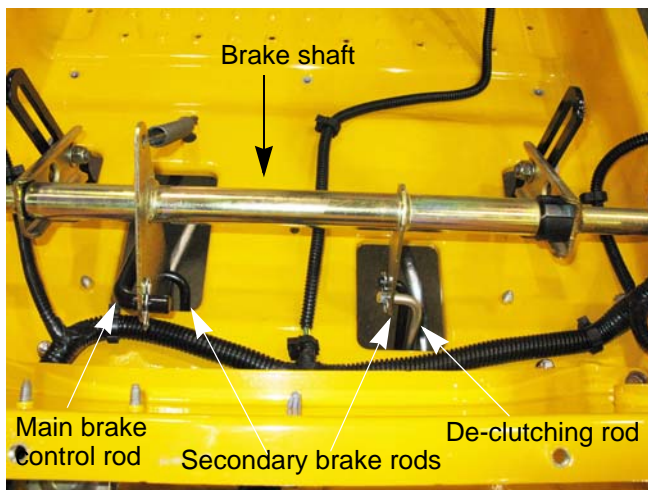

Figure 4.2
- As the brake shaft rotates, the two bell cranks will pull the secondary brake rods. The secondary brake rods will pull on the brake caliper arm, pushing the brake pins into the caliper, applying the brakes. See Figure 4.2.